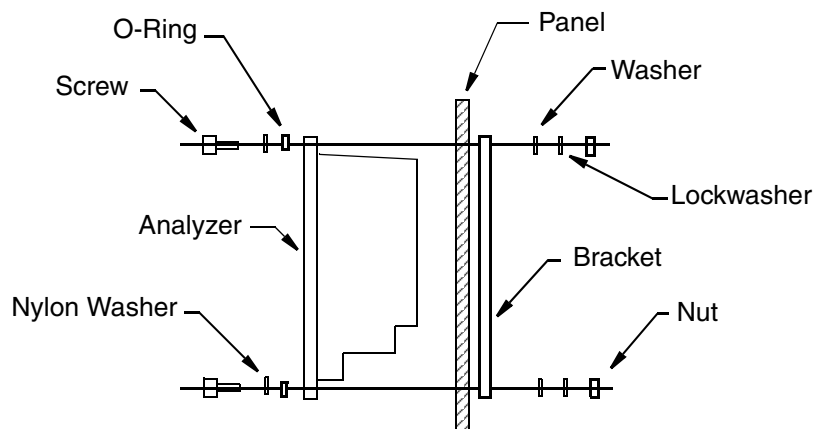

Figure 4. Panel Mounting
Panel Mounting: The basic housing meets NEMA 1 requirements for general purpose, indoor applications. However, when properly installed in a panel per Figure 4 on page 13, the front surface provides the environmental and corrosion resistant protection of NEMA Type 4X, CSA Enclosure 4X, and IEC IP65.
Panel mounting of the analyzer is shown in Figure 4. For panel cutout size, space requirements, and other dimensional data, see DP 611-164. Place the analyzer into the panel cutout from the front side and fasten it to the panel with appropriate hardware via the four holes in the corners of the analyzer bezel. The basic enclosure of the panel-mounted analyzer meets NEMA 1 requirements for general purpose, indoor applications. However, when mounted in a panel and gasketed in place with the Invensys Foxboro supplied gasket, the front surface provides the environmental and corrosion resistant protection of NEMA Type 4X, CSA encl. 4X, and IEC IP65.
3. To meet the requirements of NEMA 4X, CSA encl. 4X, and IEC IP65, the panel cutout dimensions must be held to tolerances shown in DP 611-164 and the analyzer must be mounted as shown in Figure 4.